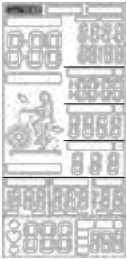

Figure 4
2. The window of INTERVAL:020, INTERVAL:020, INTERVAL-CUSTOM, READY, WORK, REST, TIME, DISTANCE, CALORIES, WATTS, SPEED, RPM and  will flash by sequence in every 1s (Figure 4-Figure 16).